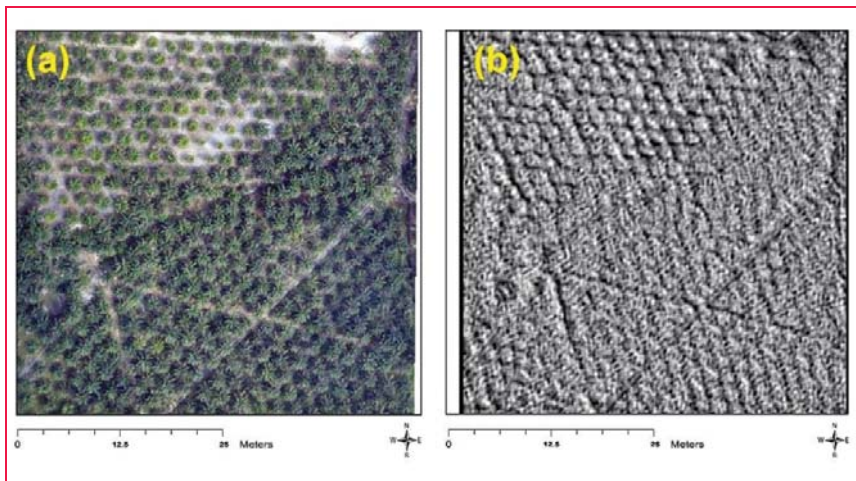

Figure 4: (a) Subset image and (b) the corresponding correlation image
Based on the optimum template, the correlation image was constructed. Each pixel value in the correlation image represents the correlation coefficient between the template image and the original image. Correlation image is represented in shade of grey scale where high correlation is represented as bright (white colour) whereas the dark pixels represent low correlation values. From Figure 4, it can be seen that the oil palm trees are shown as bright colour in the corresponding correlation image (Figure 4b). This indicates that the template matching algorithm detected the location of oil palm trees. For the purpose of counting, correlation value greater than the threshold (T) were converted into points